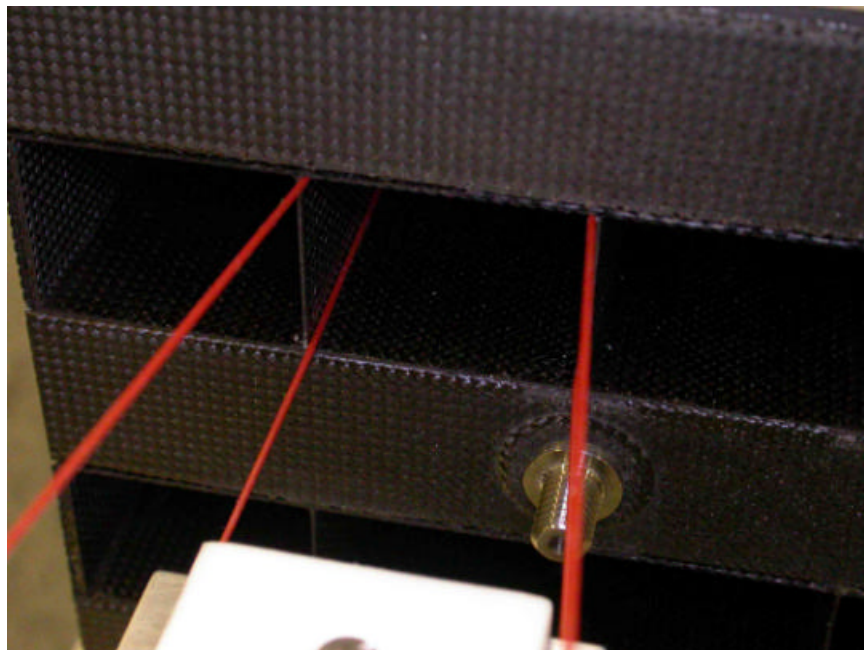

Figure 5.2-3: Proper Position of Elastic Cord at Opening of Composite Cell
10. Visually inspect the cell to verify that each cord is resting in their respective corner radius as shown in Figure 5.2-3. Reposition the cord, if necessary.